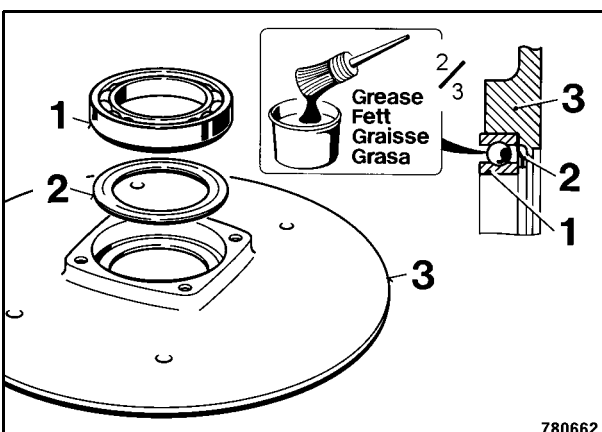

Fig. 14
19. Install Nilos ring 2 (Fig. 14).
20. Press the new bearing (1) into the bearing plate (3) until it bottoms and fill it to 2/3 with lithium saponified high pressure grease.